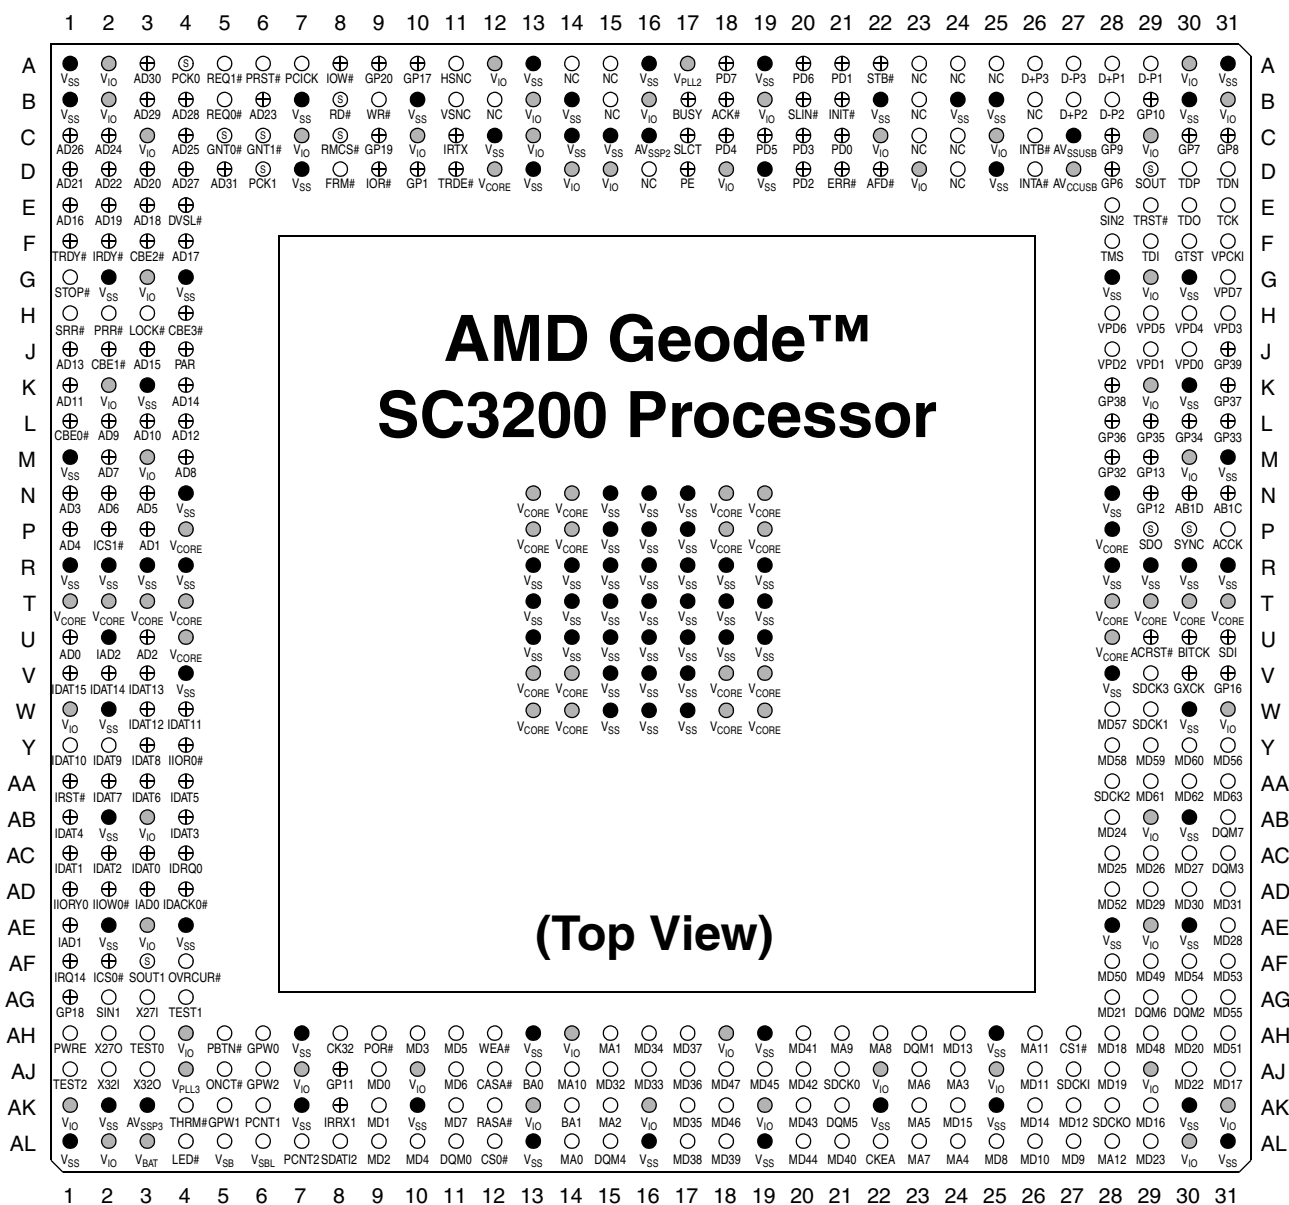

Figure 3-2. BGU481 Ball Assignment Diagram
- Figure 3-2 on page 28: Illustrates the BGU481 ball assignments.